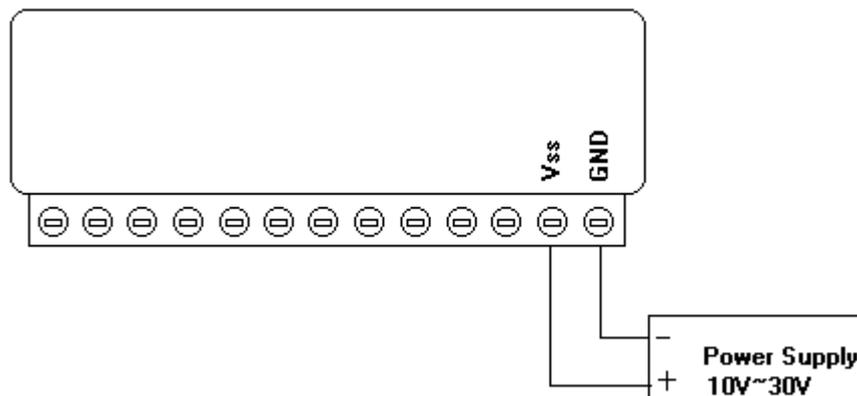

Figure 3-1 Power wiring
- ♦ Make sure to prepare all of the items above, then connect the power and network wiring as Figure 3-1 Power wiring.